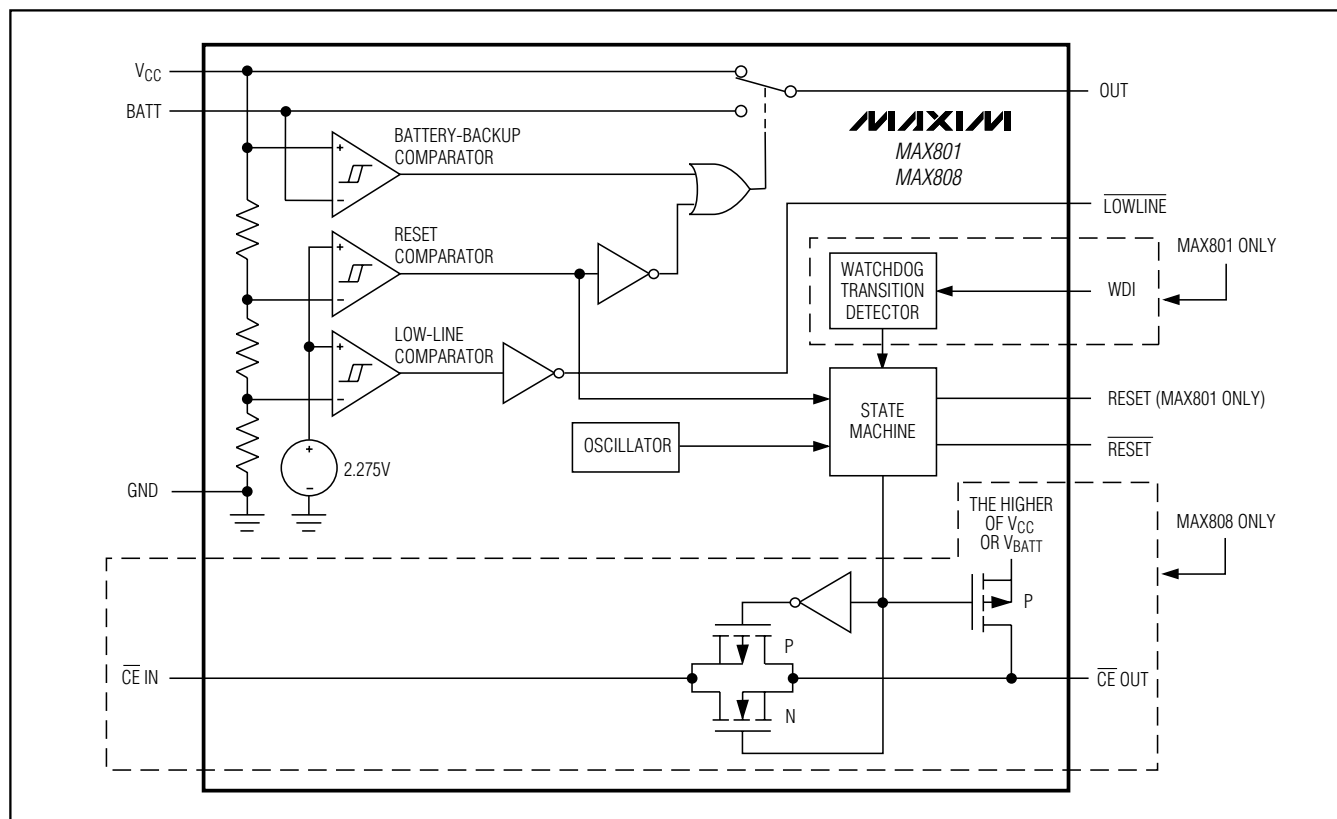

Figure 1. Functional Diagram
The MAX801/MAX808 microprocessor (μ P) supervisory circuits provide power-supply monitoring and backup-battery switchover in μ P systems. The MAX801 also provides program-execution watchdog functions (Figure 1). Use of BiCMOS technology results in an improved, 1.5% reset-threshold precision while keeping supply currents typically at 68 μ A (48 μ A for the MAX808). The MAX801/MAX808 are intended for battery-powered applications that require high reset-threshold precision, allowing a wide power-supply operating range while preventing the system from operating below its specified voltage range.
The MAX808 provides internal gating of chip-enable (CE) signals to prevent erroneous data from corrupting CMOS RAM in the event of a power failure. During normal operation, the CE gate is enabled and passes all CE transitions. When reset is asserted, this path becomes disabled, preventing erroneous data from corrupting the CMOS RAM. The MAX808 uses a series transmission gate from the chip-enable input ($\overline{\text{CE IN}}$) to the chip-enable output ($\overline{\text{CE OUT}}$) (Figure 1). The 8ns max chip-enable propagation from $\overline{\text{CE IN}}$ to $\overline{\text{CE OUT}}$ enables the MAX808 to be used with most μ Ps.